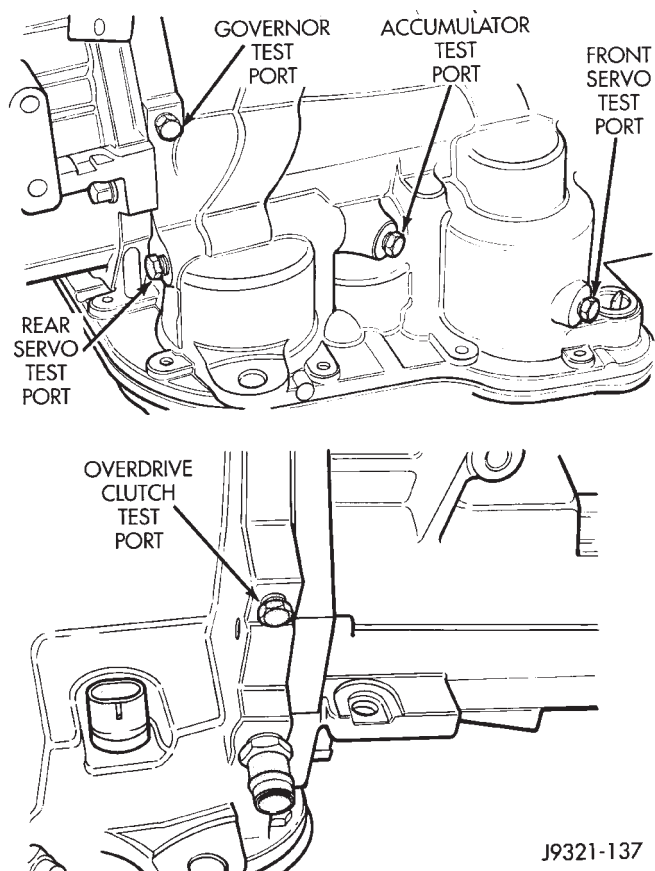

Fig. 2 Pressure Test Port Locations—46RH
The rear servo and governor pressure ports are at the right rear of the transmission case. The overdrive clutch pressure port is at the left rear of the case (Fig. 2).
- (1) Connect 100 psi Gauge C-3292 to accumulator port.
- (2) Connect 300 psi Gauge C-3293 to rear servo port (Fig. 2).
- (3) Disconnect throttle and gearshift rods from manual and throttle levers.
- (4) Start and run engine at 1000 rpm.
- (5) Move shift lever (on manual lever shaft) all the way forward into 1 range.
- (6) Move transmission throttle lever from full forward to full rearward position and note pressures on both gauges.
- (7) Line pressure at accumulator port should be 54-60 psi (372-414 kPa) with throttle lever forward and gradually increase to 90-96 psi (621-662 kPa) as lever is moved rearward.
- (8) Rear servo pressure should be same as line pressure within 3 psi (20.68 kPa).
- (1) Connect test gauge to accumulator pressure port (Fig. 2).
- (2) Start and run engine at 1000 rpm.
- (3) Move shift lever (on valve body) one detent rearward from full forward position. This is 2 range.
- (4) Move transmission throttle lever from full forward to full rearward position and read pressure at both gauges.
- (5) Line pressure should be 54-60 psi (372-414 kPa) with throttle lever forward and gradually increase to 90-96 psi (621-662 kPa) as lever is moved rearward.
- (1) Connect test gauges to accumulator and front servo ports (Fig. 2). Use either test gauge at the two ports.
- (2) Start and run engine at 1600 rpm for this test.
- (3) Move selector lever two detents rearward from full forward position. This is D range.
- (4) Read pressures on both gauges as transmission throttle lever is moved from full forward to full rearward position.
- (5) Line pressure should be 54-60 psi (372-414 kPa) with throttle lever forward and gradually increase as lever is moved rearward.
- (6) Front servo is pressurized only in D range and should be same as line pressure within 3 psi (21 kPa) up to downshift point.
- (1) Connect 300 psi gauge to rear servo port (Fig. 2).
- (2) Start and run engine at 1600 rpm for test.
- (3) Move valve body selector lever four detents rearward from the full forward position. This is Reverse range.
- (4) Move throttle lever all way forward then all way rearward and note gauge readings.
- (5) Pressure should be 145 - 175 psi (1000-1207 kPa) with lever forward and increase to 230 - 280 psi (1586-1931 kPa) as lever is moved rearward.
(1) Connect 100 psi Test Gauge C-3292 to governor pressure port (Fig. 2).
(2) Move shift lever to D range.
(3) Start and run engine at curb idle speed and note pressure. At idle and with vehicle stopped, pressure should be zero to 1-1/2 psi maximum. If pressure exceeds this figure, governor valve or weights are sticking open.
(4) Slowly increase engine speed and observe speedometer and pressure test gauge. Governor pressure should increase in proportion to vehicle speed. Or approximately 1 psi for every 1 mph.
(5) Pressure rise should be smooth and drop back to 0 to 1-1/2 psi when wheels stop rotating.